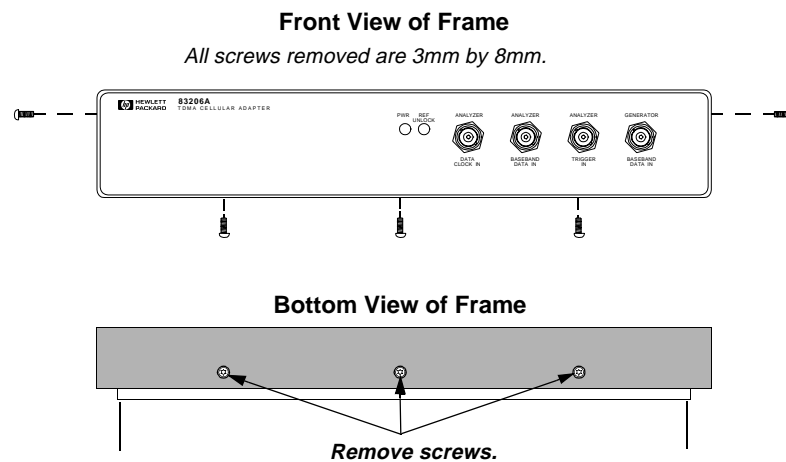

Figure 20 Removing the Frame Screws
3. Remove the 5 frame screws shown in figure 20.